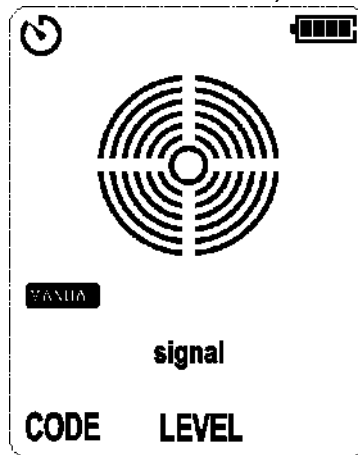

Figure 6.2.1b Manual Mode
1. Power on the receiver and then it enters MANUAL mode (default reception sensitivity: 6), as shown in Figure 6.2.1b.